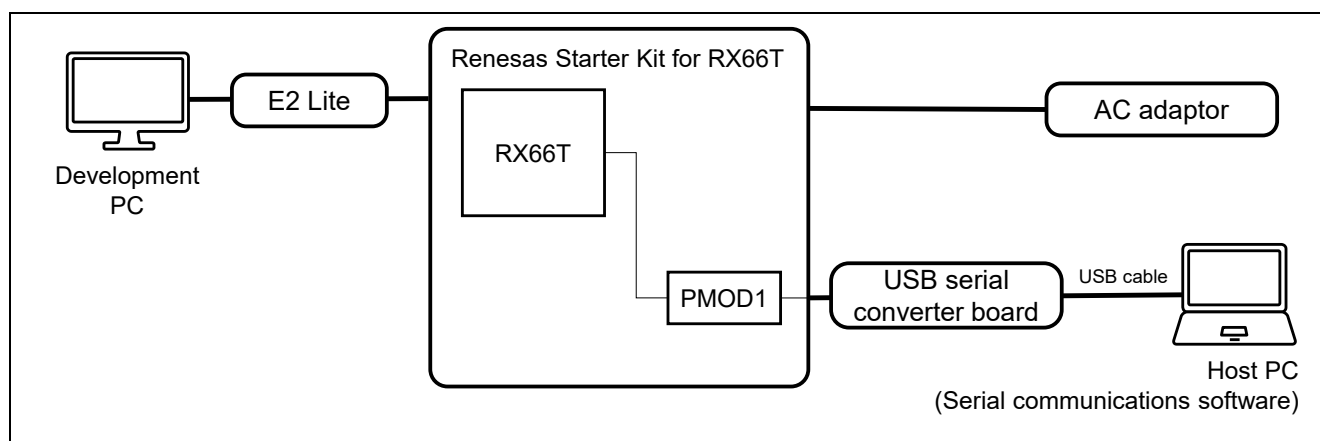

Figure 4.8 RSK RX66T Device Connection Diagram
1. Connect the USB port of the PC to the USB serial converter board and the USB serial converter board to the PMOD1 connector of the RSK board as shown in Figure 4.8, RSK RX66T Device Connection Diagram.
1. Connect the USB port of the PC to the USB serial converter board and the USB serial converter board to the PMOD1 connector of the RSK board as shown in Figure 4.8, RSK RX65N Device Connection Diagram.